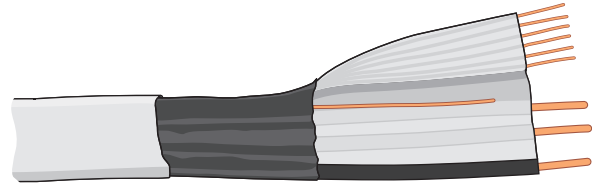

FIGURE 31-4 A typical cable consisting of ac power, telephone, coaxial cable, and low-voltage control conductors. (Delmar/Cengage Learning)
These systems are wired with special cables such as unshielded twisted pair (UTP), shielded twisted pair (STP), speaker wire, coaxial, fiber optic (FO), and cables that contain multiple types of conductors, as shown in Figure 31-4. The UL Standard refers to FO cables as *optical fiber cables*. A single pair of FO cables can handle the same amount of voice traffic as 1400 pairs of copper conductors.